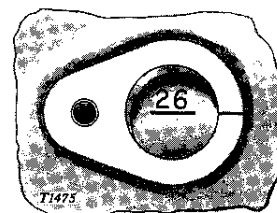

Fig. 40-10-7 -- Flywheel Timing Mark
1. Uncover timing hole located on distributor side of clutch housing (Fig. 40-10-7).
3. Turn engine very slowly. Place thumb in spark plug port of No. 1 (front) cylinder. Turn engine until considerable air pressure is felt against thumb; then continue turning until "26" mark on flywheel lines up with marks on side of timing hole (Fig. 40-10-7). Do not reverse rotation of engine if "26" mark goes past hole; instead, repeat procedure.
To determine correct position, turn engine until No. 1 (front) piston is at top dead center on compression stroke (both valves closed). The "DC" mark on flywheel will now be lined up with the marks on timing hole (see Fig. 40-10-7).